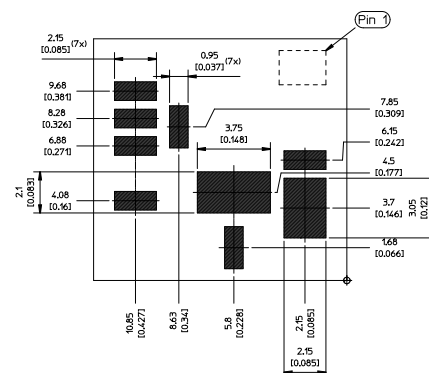

Figure 1 Test pads
- Besides the terminals, there are extra pads for production test located at the bottom side of the modules. (see Figure 1 Test Pads) Don't place conductive trace, voids and other pads beneath the module to prevent unexpected short.